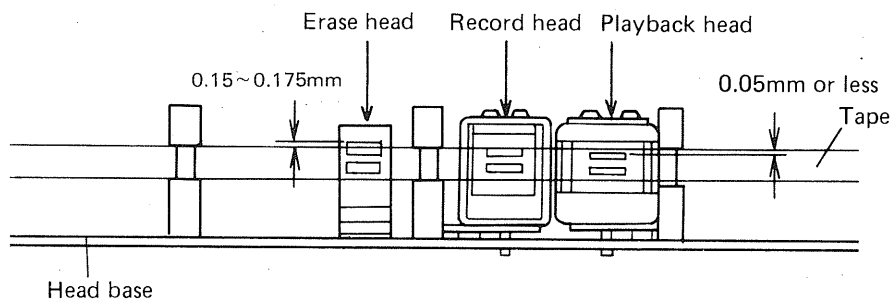
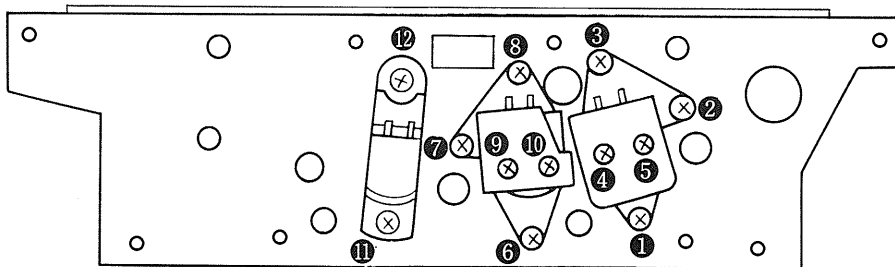

Fig. 28
Fig. 29
Adjust the screws of Fig. 29 so that the heads and tape become the dimensions shown in Fig. 28 when the tape has been run.
- Playback head ①, ②, ③
- Record head ⑥, ⑦, ⑧
- Erase head * ⑪, * ⑫
*When the height of the erase head is not the dimension given in Fig. 28, loosen screws ⑪, ⑫ and adjust the height by inserting an adjustment spacer under the head.
Adjust the screws of Fig. 29 so that the head gaps are at right angles to the tape.
Adjust the screws of Fig. 29 so that the top and bottom of the front of the head contact the tape uniformly when the tape is running.
1. Adjust screw ② of Fig. 29 for maximum output level at both the L and R channels. The difference in the L and R channels output does not require attention unless it is too large.
2. When the output difference is excessive, loosen screws ④, ⑤ and determine the optimum position while turning the head within the horizontal plane (left, right).
1. Adjust screws ⑥, ⑦, and ⑧ of Fig. 29 for maximum R channel output level at the voltmeter (millivoltmeter) connected to the LINE OUTPUT terminals.
2. Next, apply a 15kHz signal, set to the simultaneous record/play mode and fine adjust screw ⑦ of Fig. 29 for maximum L and R channel output.
4. When there is a difference in the L and R channel output, loosen screws ⑨, ⑩ of Fig. 29 and determine the optimum position while turning the head in the horizontal plane (left, right).